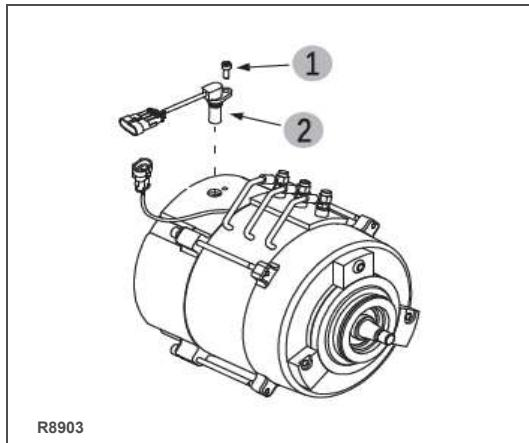

Figure 7-4 Speed Encoder
2. Disconnect the plug on the speed encoder (3, Figure 7-4).
3. Remove the screw (1) that secures the speed encoder to the drive motor and remove the speed encoder.